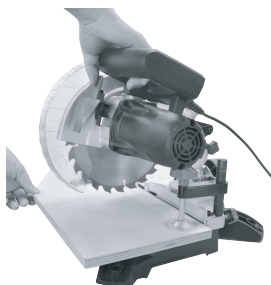

Fig.6
4. Workpiece clamp (Fig.6)
When cutting workpiece, the boards should always be clamped with a hold-down clamp (provided) as shown in Fig.6.